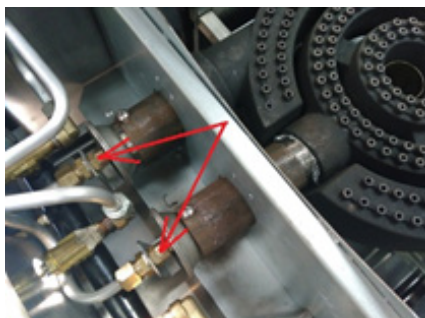

Fig.6
2. Screw out the Natural gas orifice counter-clockwise, then screw in the LP gas orifice clockwise (Fig.6).